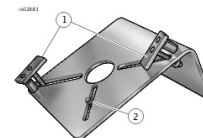

Figure 7. Flywheel Fixture
FLYWHEEL SUPPORT FIXTURE (HD-44358), see Figure 7. Install brass jaws or shop towels around the teeth of a vise to prevent tool damage. Clamp the tool in the vise with the round hole topside.
4. See Figure 7. Position the WEDGE ATTACHMENT on the inboard side of the thrust washer, and turn the hex nuts an equal number of turns to draw the halves of the wedge together.